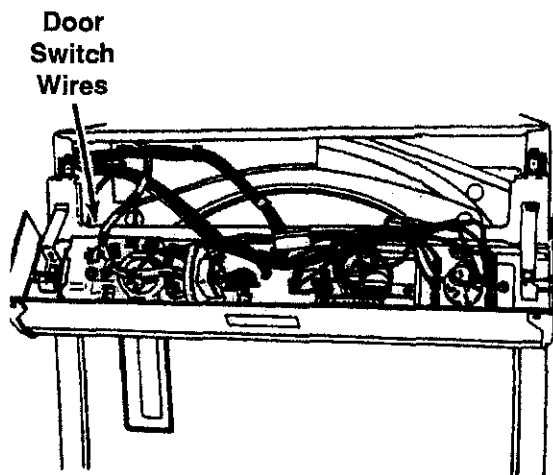

Fig. 22
2. Flip down the Control Panel. (Fig. 22)